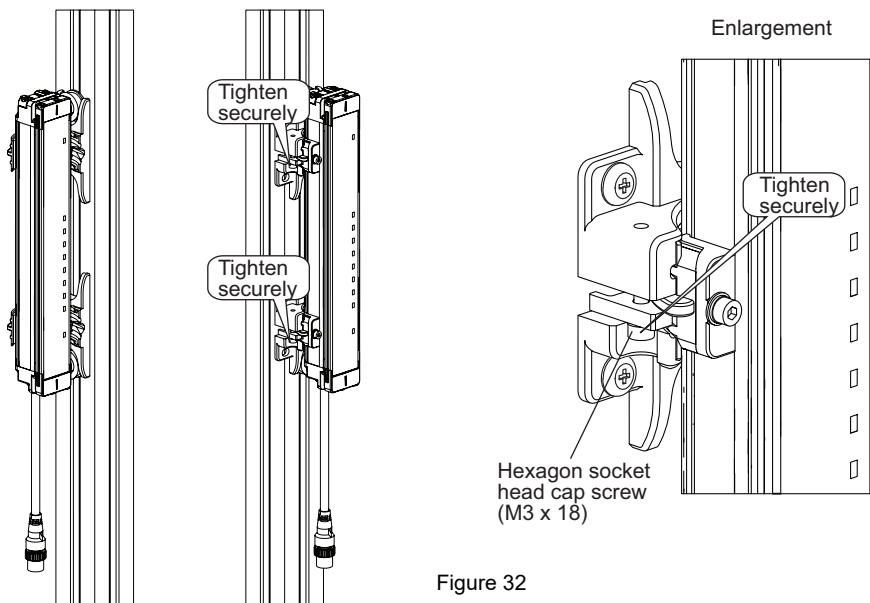

Figure 32
- Tighten two hexagon socket head cap screws (M3 x 18) on Intermediate Bracket (3) to prevent rotation. (Figure 32) Tighten the hexagon socket head cap screws (M3 x 18) with the torque at 0.54 N•m (recommended).